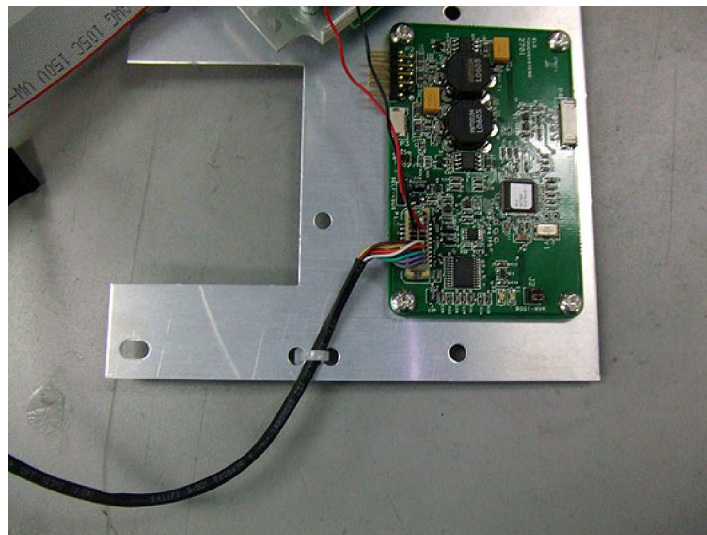

Figure 11: Connecting the RS232 cable to the Touch Panel Controller board
- c. Install the non-keyed end of the new Power and I/O cable assembly (Tektronix part number 174-5413-xx) to the P1 connector on the Touch Panel Controller board. See Figure 11.
- d. Fasten the cable to the bracket using cable ties as shown in Figure 11. Cut off the end of the cable tie.